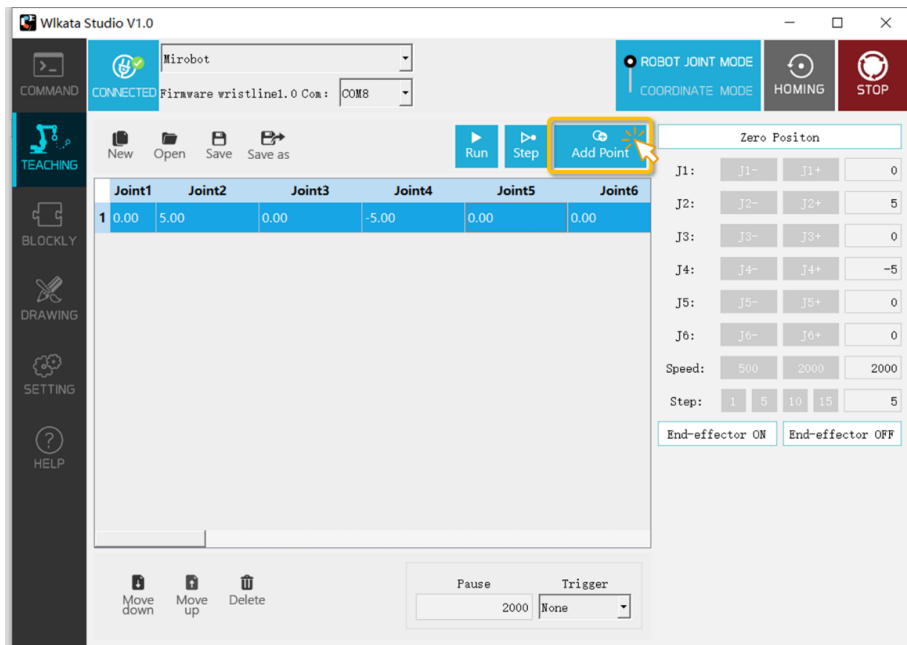

Figure 3.23 Adding the teaching points under the TEACHING page
- (3) Click the - + control buttons on the right panel of WLKATA Studio to move the joints (under the ROBOT JOINT MODE) / or the position and attitude of the End-effector (under the COORDINATE MODE) to the wanted position. When adjusted to a satisfactory position point, click the **Add Point** button to add a teaching point, as shown in Figure 3.23.